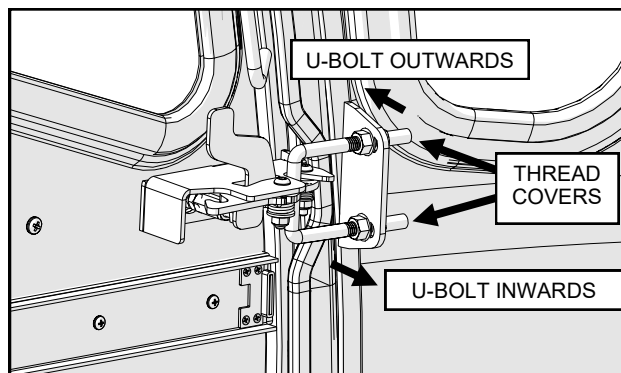

Fig. 5.3 (U-Bolt adjustment - left side)
**5.3** Check the seal on the front edge of the door. If there is a gap, adjust the U-Bolt inwards until there is no longer a gap (Figure 5.3). Make sure you are able to close the door without significant force to latch the door. If you have difficulty latching the door, adjust the U-Bolt outwards.